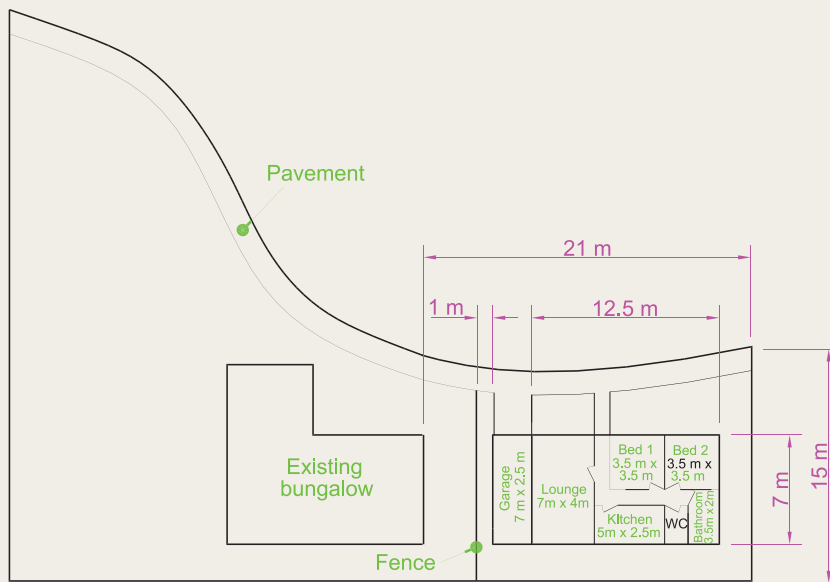
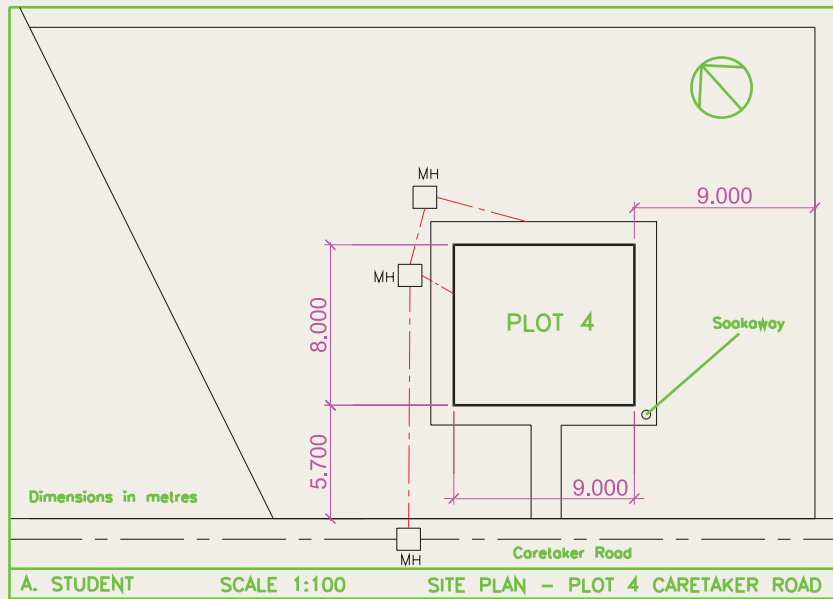

Fig. 16.28 Exercise 1
Fig. 16.30 Exercise 3 – site plan
1. Fig. 16.28 is a site plan drawn to a scale of 1:200 showing a bungalow to be built in the garden of an existing bungalow. Construct the library of symbols shown in Fig. 16.8 on page 308 and by inserting the symbols from the DesignCenter construct a scale 1:50 drawing of the floor layout plan of the proposed bungalow.
3. Fig. 16.30 shows a scale 1:100 site plan for the proposed bungalow 4 Caretaker Road. Construct the floor layout for the proposed house shown in the drawing Fig. 16.28.